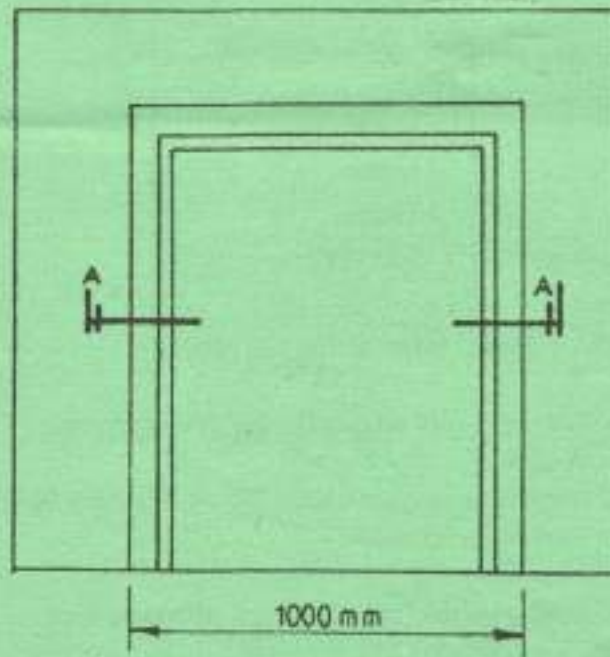

Fig. 2
- (b) **Figure 2** shows a vestibule frame to a swing door. To a scale of 1:10, draw section A - A. (12 marks)